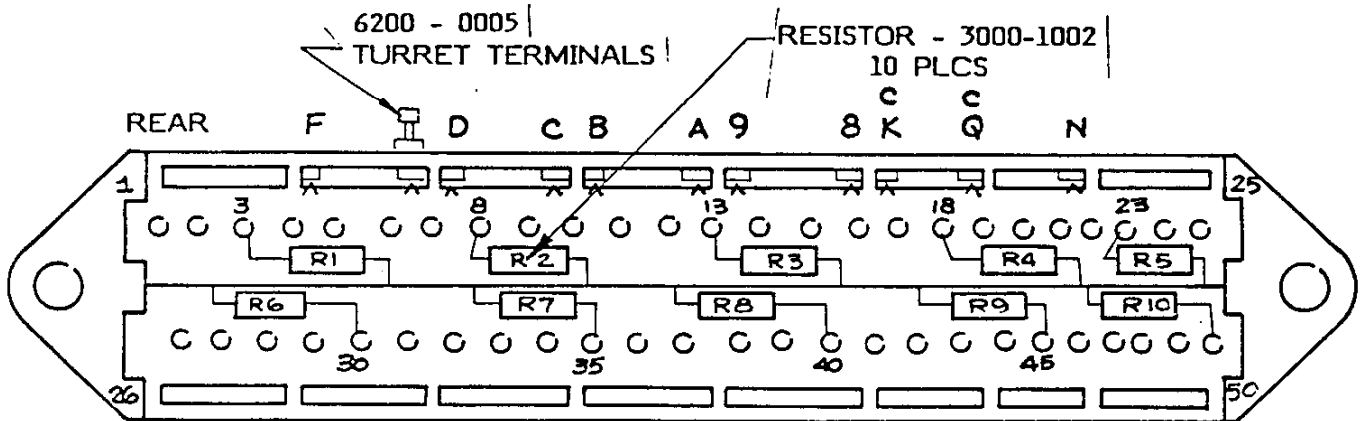

Figure 5.20-Alignment Housing A Resistor Placement
4. Solder resistors to common bus wire as shown in Figure 5.20